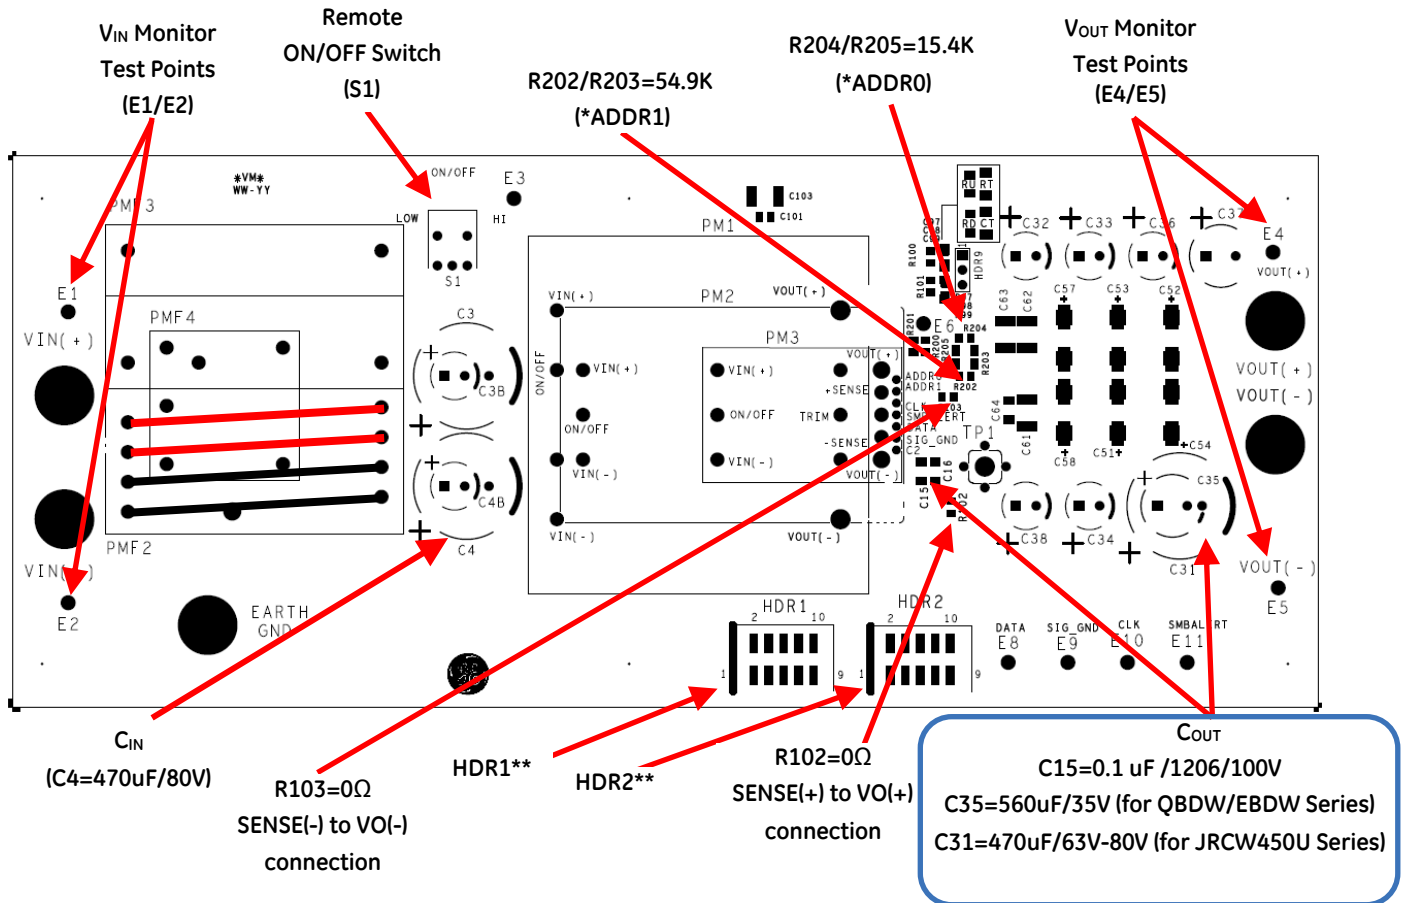

Figure2. Power and Signal Interface
**Note:** Component values are for reference only; refer to the applicable module's data sheet for appropriate values and Fig. 2 for preinstalled components.
Note: Component values are for reference only; refer to the applicable module's data sheet for appropriate values and Fig. 2 for preinstalled components.
An annotated picture of the evaluation board is shown in Fig. 2 below. The arrows indicate locations of various components that are pre-installed.